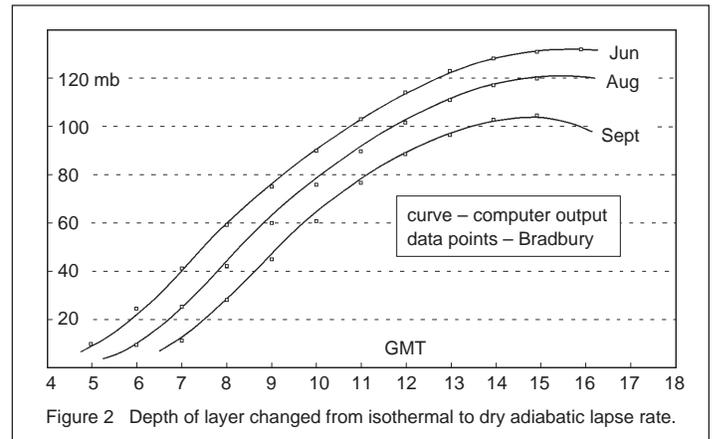

Figure 2 Depth of layer changed from isothermal to dry adiabatic lapse rate.
Data representing the effect of solar heating on the lower atmosphere at 52N, OW (south-central England) have been published by Bradbury (4). The data represents the depth of a layer (expressed in millibars) that is changed from a constant temperature (isothermal) profile to a dry adiabatic profile (3C per 1000 feet). The parameter governing item (4) of the heat balance was selected so as to obtain agreement with Bradbury's data at one point, which is the maximum depth of this layer for mid June. The parameter so determined was used to generate the daytime variation of this layer for June, August and September. Figure 2 illustrates the comparison between the computer model (solid curve) and Bradbury (data points). Agreement is excellent for all times of day including the early